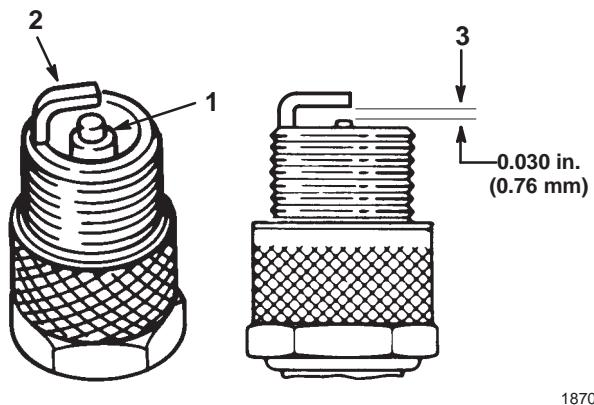

Figure 27
1. Look at the center of the spark plug (Fig. 27). If you see light brown or gray on the insulator, the engine is operating properly. A black coating on the insulator usually means the air cleaner is dirty.
2. Check the gap between the center and side electrodes (Fig. 27). Bend the side electrode (Fig. 27) if the gap is not correct.